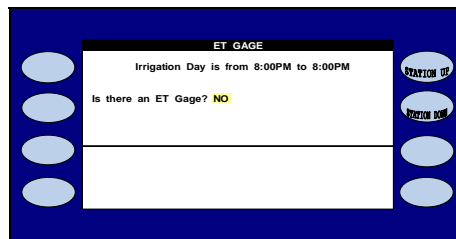

Figure 5.4
4.  Press the blue **ARROW** keys to move the cursor to the IS THERE AN ET GAGE? (Figure 5.4).